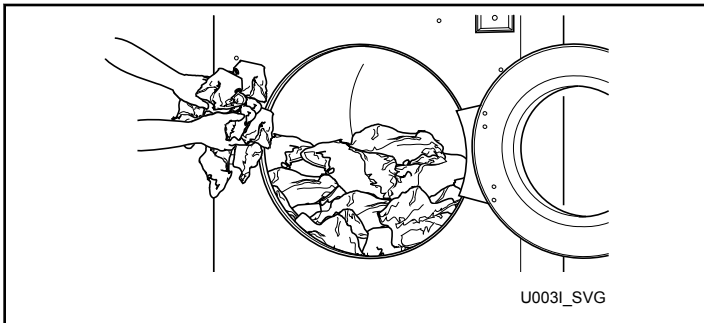

Figure 35
3. Load to capacity whenever possible. DO NOT OVERLOAD. Refer to *Figure 35*.